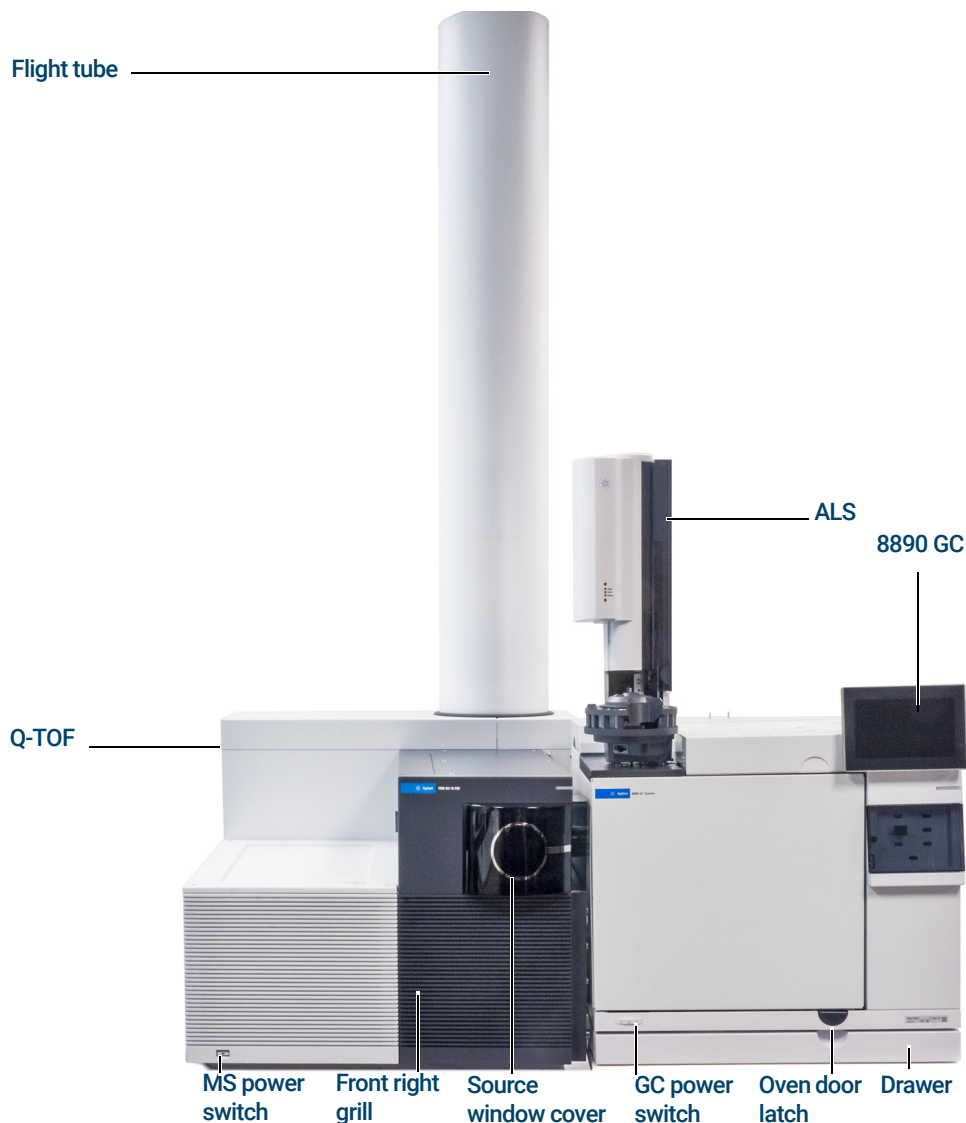

Figure 1. 7250 Accurate-Mass Q-TOF and 8890 GC/MS System
**Figure 1** is an overview of a typical 7250 Accurate-Mass Q-TOF GC/MS system.